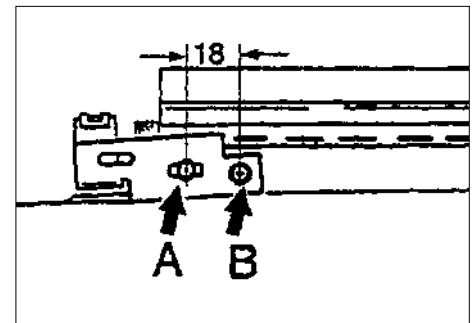

Figure 22
- On the removed roof trim panel, secure the loose rivets (Figure 22, arrow A) on the center securing point for the B pillar.
- Install an additional securing screw (Part number, 993 562 737 00) on the bracket (Figure 22, arrow B).